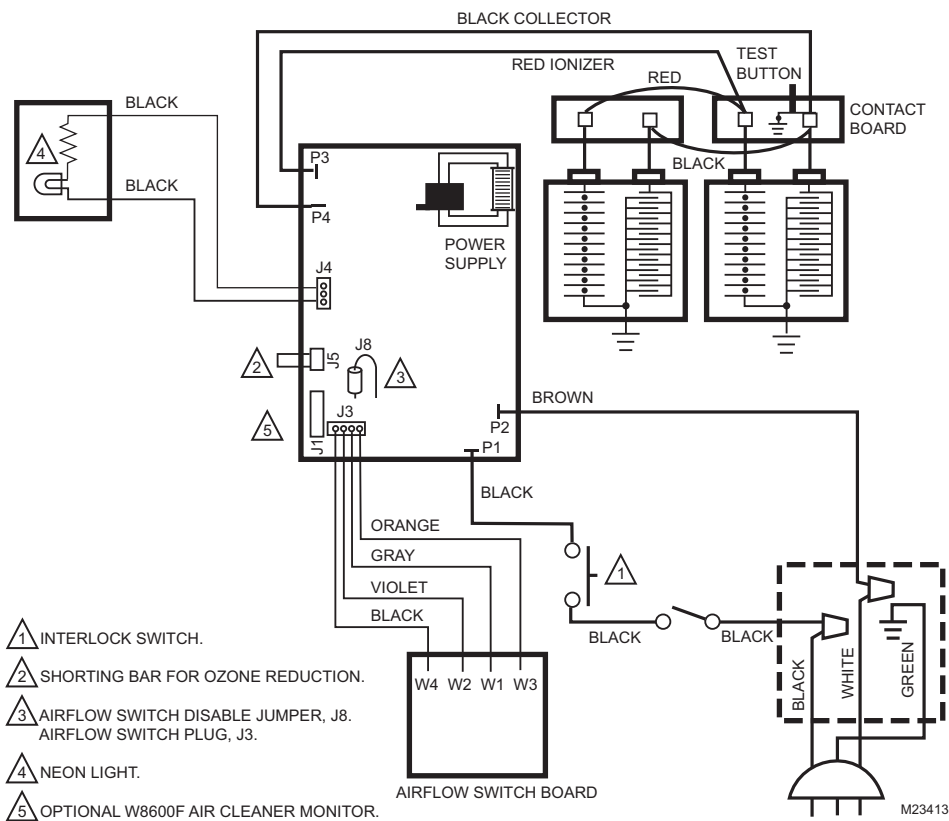

Fig. 10. Internal schematic for electronic air cleaner.
- When the System fan comes on, the Air Flow Switch (AFS) senses the negative pressure in the duct and turns on the power supply. If power to the air cleaner is controlled by another switch, the AFS can be disabled by disconnecting the AFS plug J3 and cutting the J8 jumper on the power supply. See Fig. 10.
- ❑ Plug the electronic air cleaner directly into the correct voltage and frequency outlet. See Fig. 10 for internal schematic. The air cleaner operates correctly with any fan when wired with conduit or plugged in.